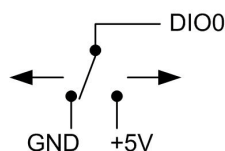

Figure 10. Schematic showing switch detection by digital channel DIO0
When configuring the digital bits for input, the digital I/O terminals can detect the state of a TTL-compatible device. The ground (**GND**) terminal provides a common ground for the digital I/O channels. Refer to the schematic shown in Figure 10. If the switch is set to the +5V input, DIO0 reads *TRUE* (1). If the switch is moved to GND, DIO0 reads *FALSE* (0).